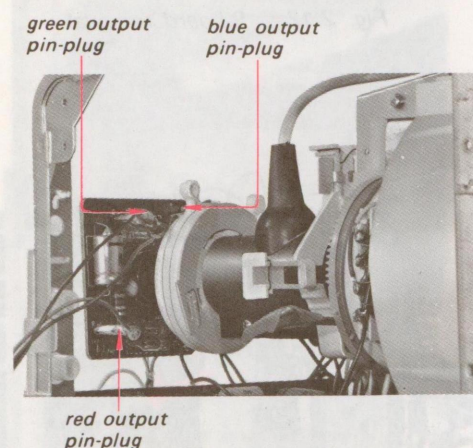

Fig. 2-20. Removal of cathode-drive leads
2. Pull off the three pin-plugs that connect between the red, blue and green outputs of CD board and the T board. (See Fig. 2-20.)